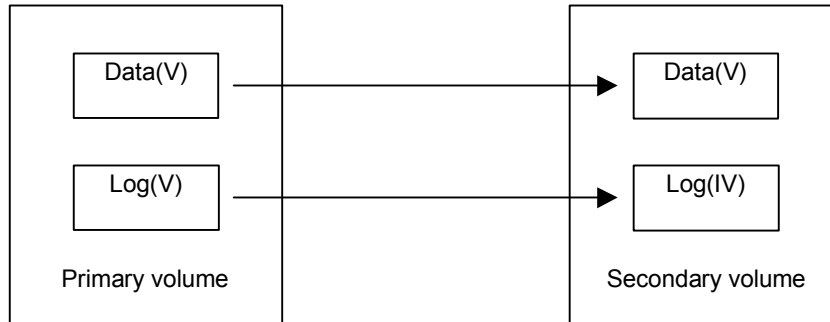

Figure 6.1 Relationship Between Log File and Data File in PAIR Status
When a take-over by the S-VOL occurs as shown in Figure 6.1 (two errors have already occurred), Data(V) remains in the rollback process at the secondary host, and full recovery cannot be performed. To avoid this situation, you can define the fence level of the Redo log file as **Data**, so that the P-VOL returns an error if a data disagreement is expected to occur concerning a write request issued from the host. The **Data** fence level setting maintains full consistency between the Redo log file and the data file, since no data is written to the data file due to the write error at the log file. However, when the fence level is defined as **Data**, a write I/O causes an error even when processing has been suspended due to an error at the S-VOL. In this case, a take-over by the S-VOL occurs, and the significance of the duplex system will be lost. Therefore, if you define the fence level as **Data**, applications must be able to cope with write I/O errors by handling them. Systems that allow disk errors by means of multiplication can function with the **Data** fence level setting. For example, Oracle multiplies the Redo log file by itself (default = three times).